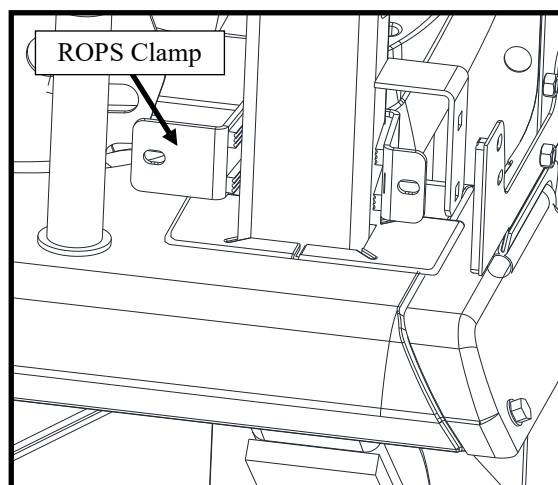

Figure 5.1: ROPS Clamp Set In Place
- 5.1 Set a ROPS clamp in place on the left side ROPS tube with the larger flange towards the front as shown in Figure 5.1.